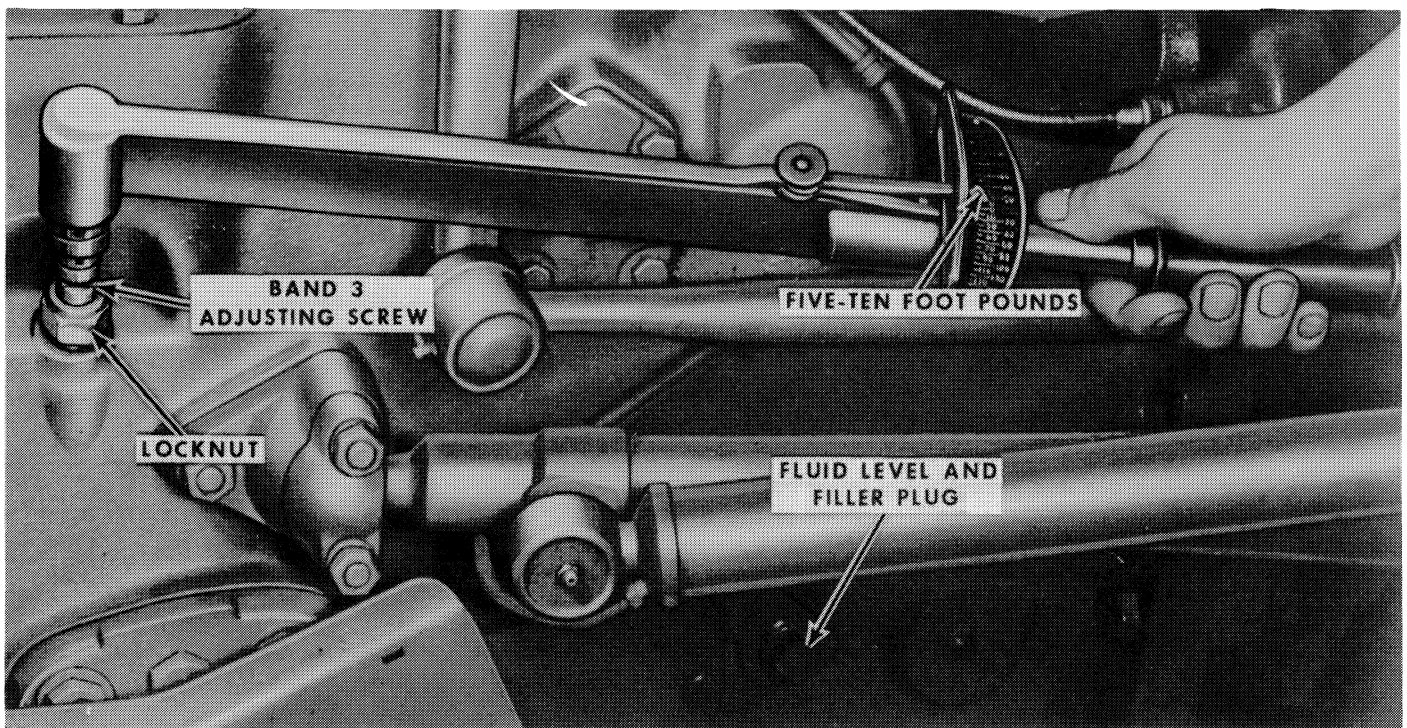

Figure 22
3. Clean the area surrounding the fluid level and filler plug, shown in Figure 22, and remove the plug.
6. Clean the area surrounding the fluid level and filler plug, Figure 22, then remove the plug and add 12 quarts of Ford Specification M-2C-41 Hydraulic Fluid to the transmission through this opening.
4. Referring to the chart, select the correct released gear ratio for the band involved. Tighten the adjusting screw to 5-10 ft. lbs. and back the screw off the proper number of turns. Refer to Figure 22. Band 1 is to be adjusted with the tractor engine "off."